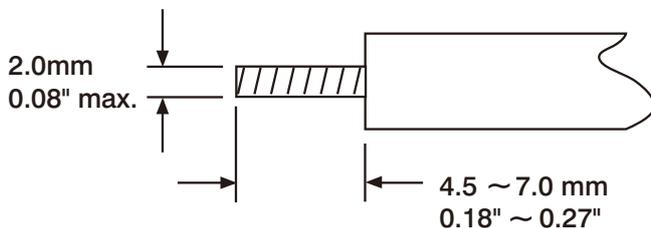

Figure 2.2 Lead Termination
- * The " stripped " leads as specified in Figure 2.2 below are used for power and sensor connections.